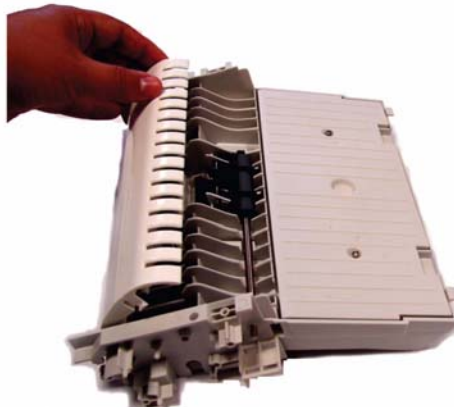

Figure 1
2. Lift the ADF feed guide to remove it from the ADF document feed assembly, Figure 1.